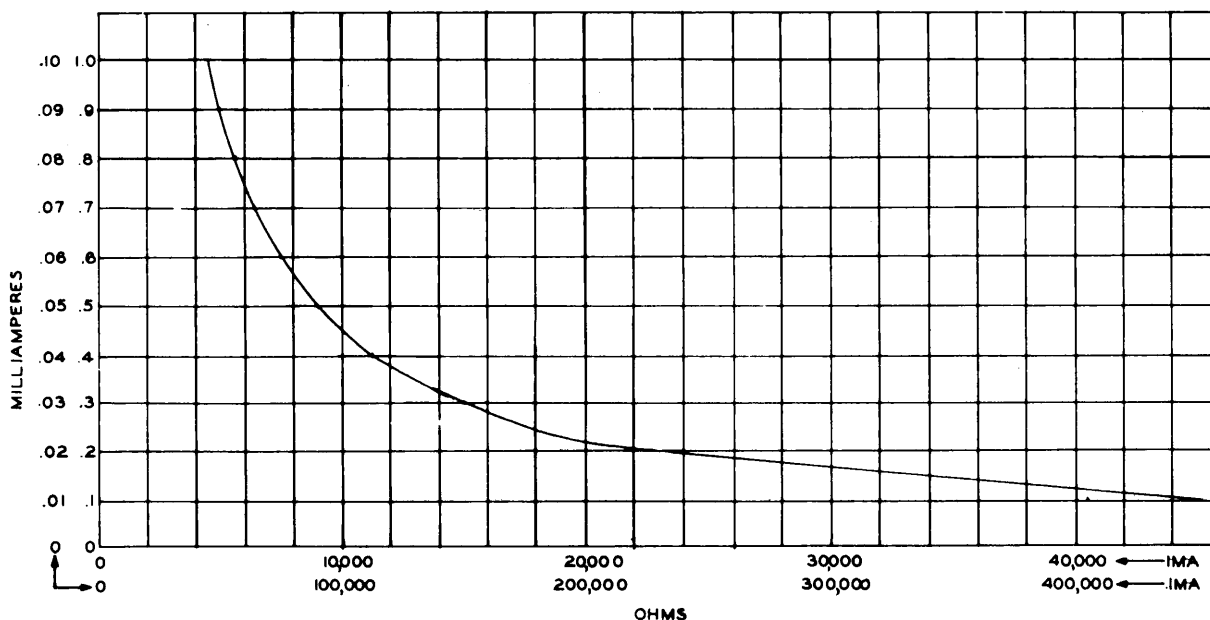

Fig. 10—Resistance vs Current KS-12054 \blacklozenge L1 \blacklozenge Varistor Test 4.5-Volt Test Condition
4.07 With the rotary switch set on its 1-mA position, a reverse voltage of 4.5 volts is applied to the varistor. The three 1.5-volt internal batteries are connected in series with the varistor to provide this test voltage. The reading is made on the 1-mA scale. If the current is less than 0.1 mA, turn the rotary switch to its 0.1-mA position, which provides the same 4.5 test voltage, but with the meter at 0.1-mA full-scale sensitivity. A translation of meter current readings to resistance in ohms is shown in Fig. 10.